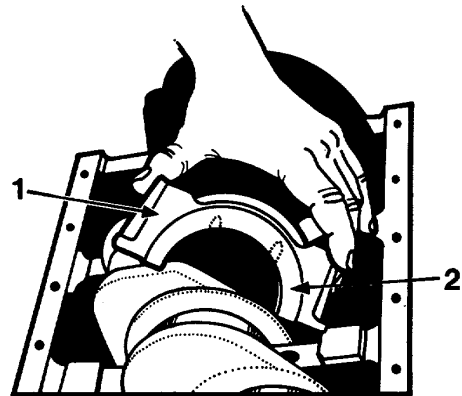

Fig. 68 Main Bearing Cap Removal
70. The crankshaft bearing caps are numbered and arrowed to the front to identify their respective positions for reinstallation. The number three bearing cap accommodates a thrust flange to limit crankshaft end play, Figure 68. Remove bolts from bearing caps and remove all main bearing caps.